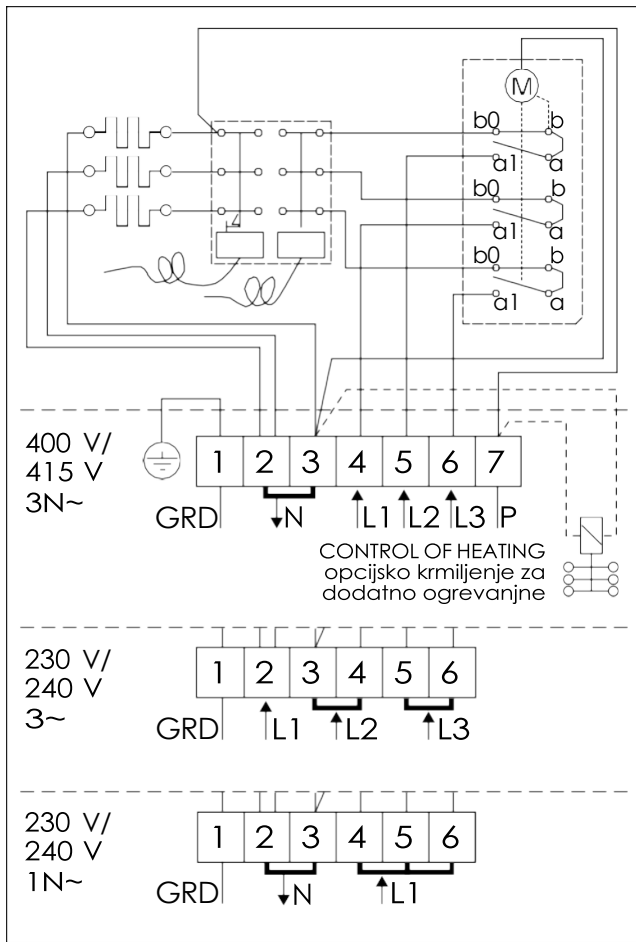

Figure 10. Electrical connections of BC heater
- In addition to supply connectors, the BC heaters are equipped with a connector (P), which makes the control of the electric heating possible (figure 10). Voltage control is transmitted from the heater when it is switched on. The control cable for electrical heating is brought directly into the junction box of the heater, and from there to the terminal block of the heater along a rubber cable with the same cross-section area as that of the connecting cable.